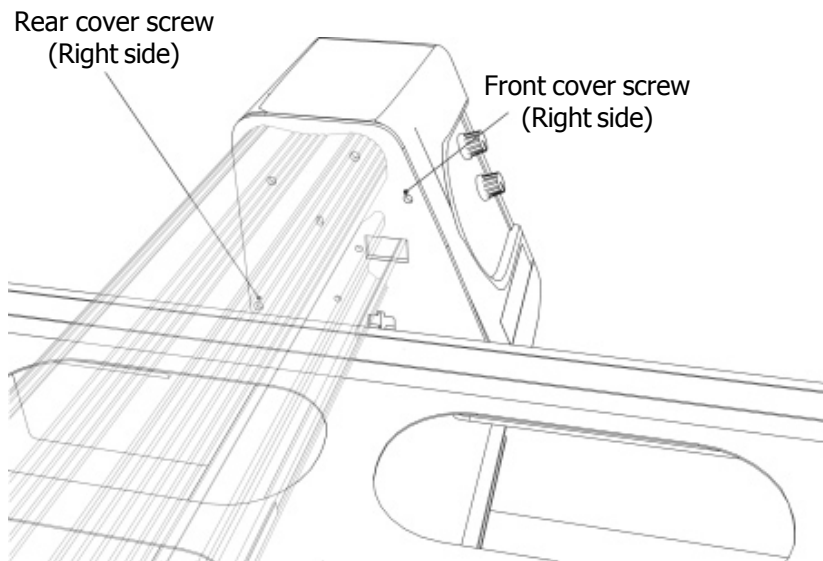

Fig 37 -Right side cover screws (Black phillips head)
2. Remove the two black phillips head screws, and the single silver phillips head screw on the bottom of the cover, then remove the right cover. To access the rear black screw, you may have to move the tray forward. *See figure 37 below.*